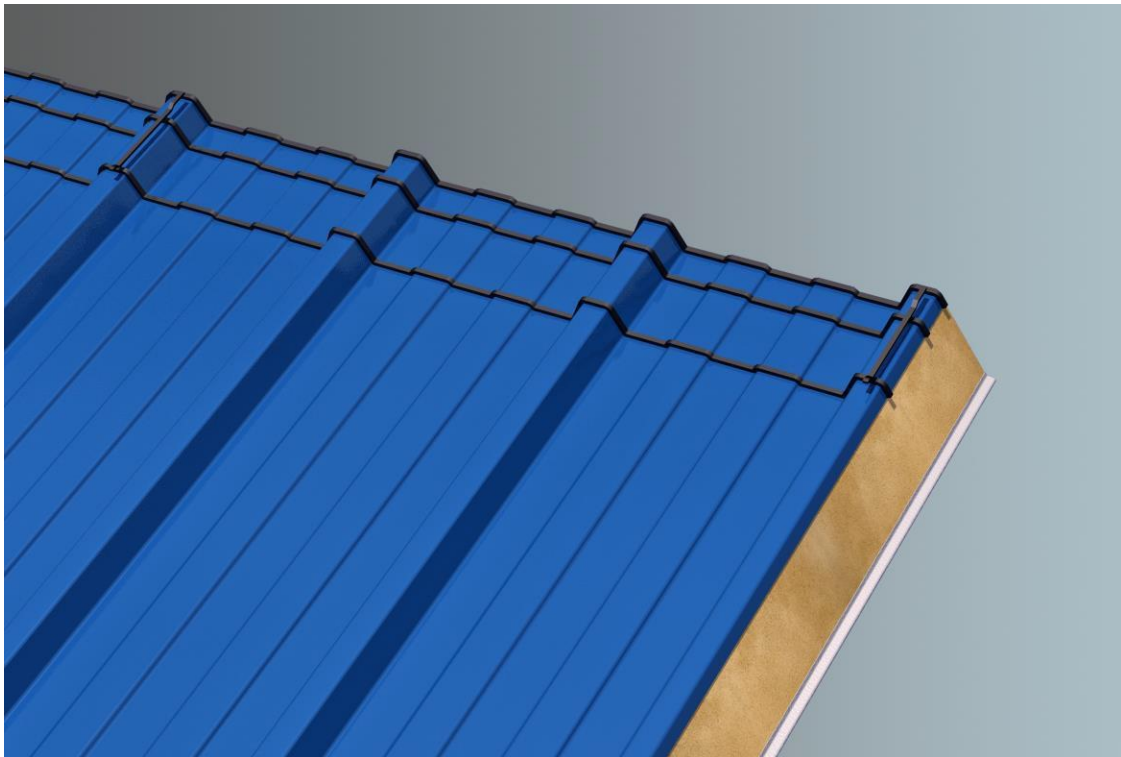

Figure 1
- Apply three runs of 6 x 5mm butyl sealant to the head of panel one, one on each side of the fixing line and one 15mm from the end of the lap (figure 1, page 7).
- Apply a run of 6 x 5mm butyl sealant to the male crown of panel one for the length of the lap (figure 1, page 7).